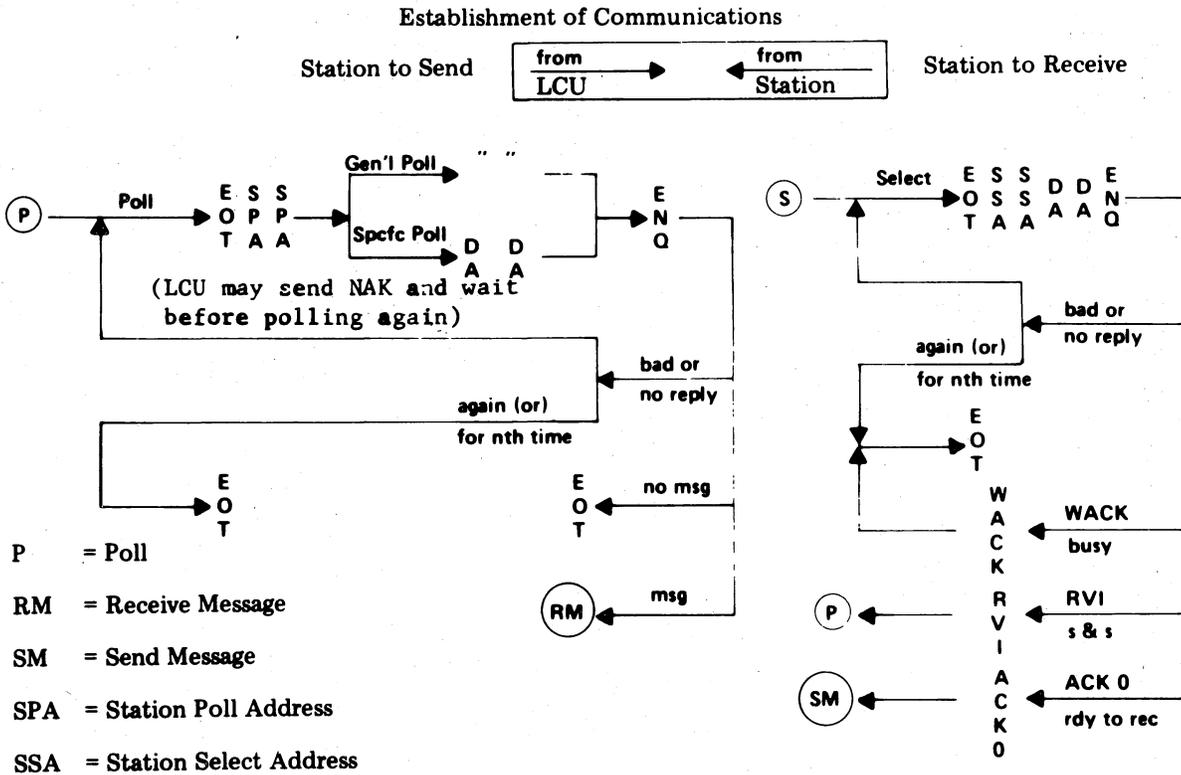

Fig. 16—System Flow Diagram For BSC
8.02 The remainder of Part 8 describes BSC protocol. Fig. 16, 17 and 18 show the
8.03 Fig. 16, 17 and 18 show both the communications capabilities and the character sequences (SYNs and PADs are not shown) for polling and selection for most message formats and replies. System operation is divided into the following three categories: